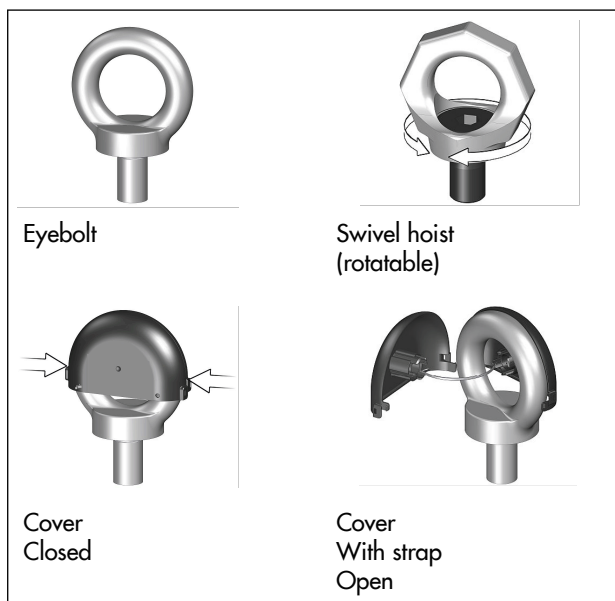

Fig. 5: Strap on eyebolt/swivel hoist
1. Open the eyebolt cover by lightly pressing the side clips and remove it (see Fig. 5).
6. Remove slings after mounting and replace the cover on the eyebolt (see Fig. 5).